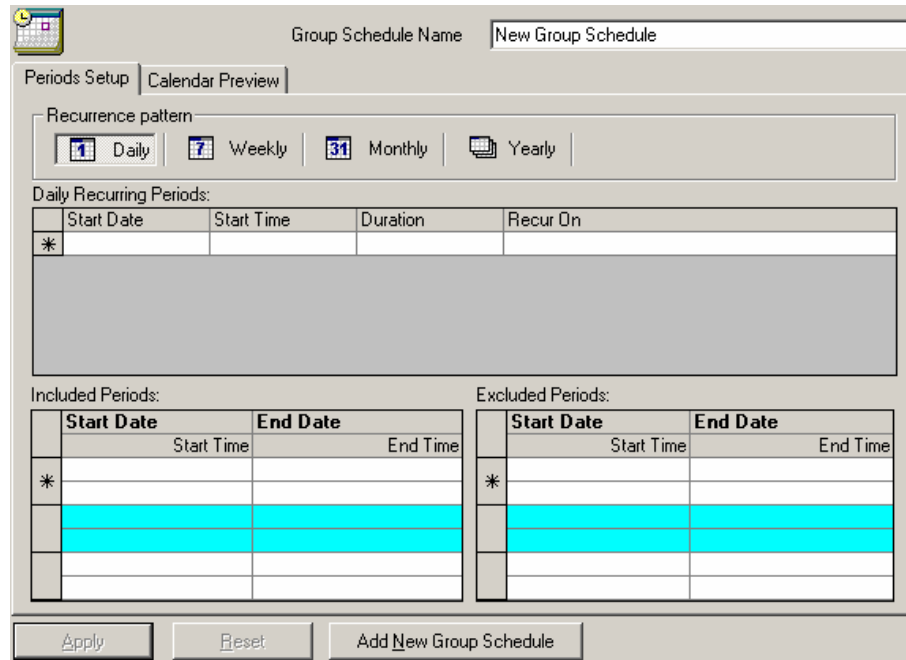

Figure 6.2. Configuring a New Group Schedule
2. The group schedule configuration field will be displayed in the right-hand pane, as shown in **Figure 6.2**.
3. Type a name for the new group schedule, as shown in Figure 6.2.